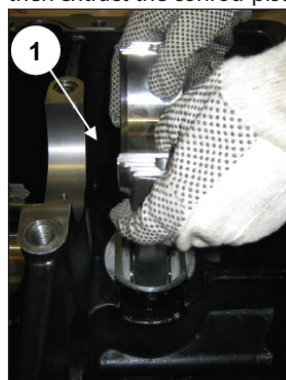
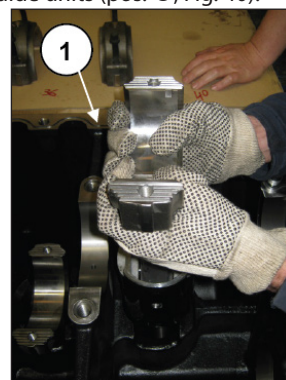

Fig. 39
Fig. 40
Now remove the conrod from its cylinder (pos. ①, Fig. 39) and then extract the conrod-piston guide units (pos. ①, Fig. 40).